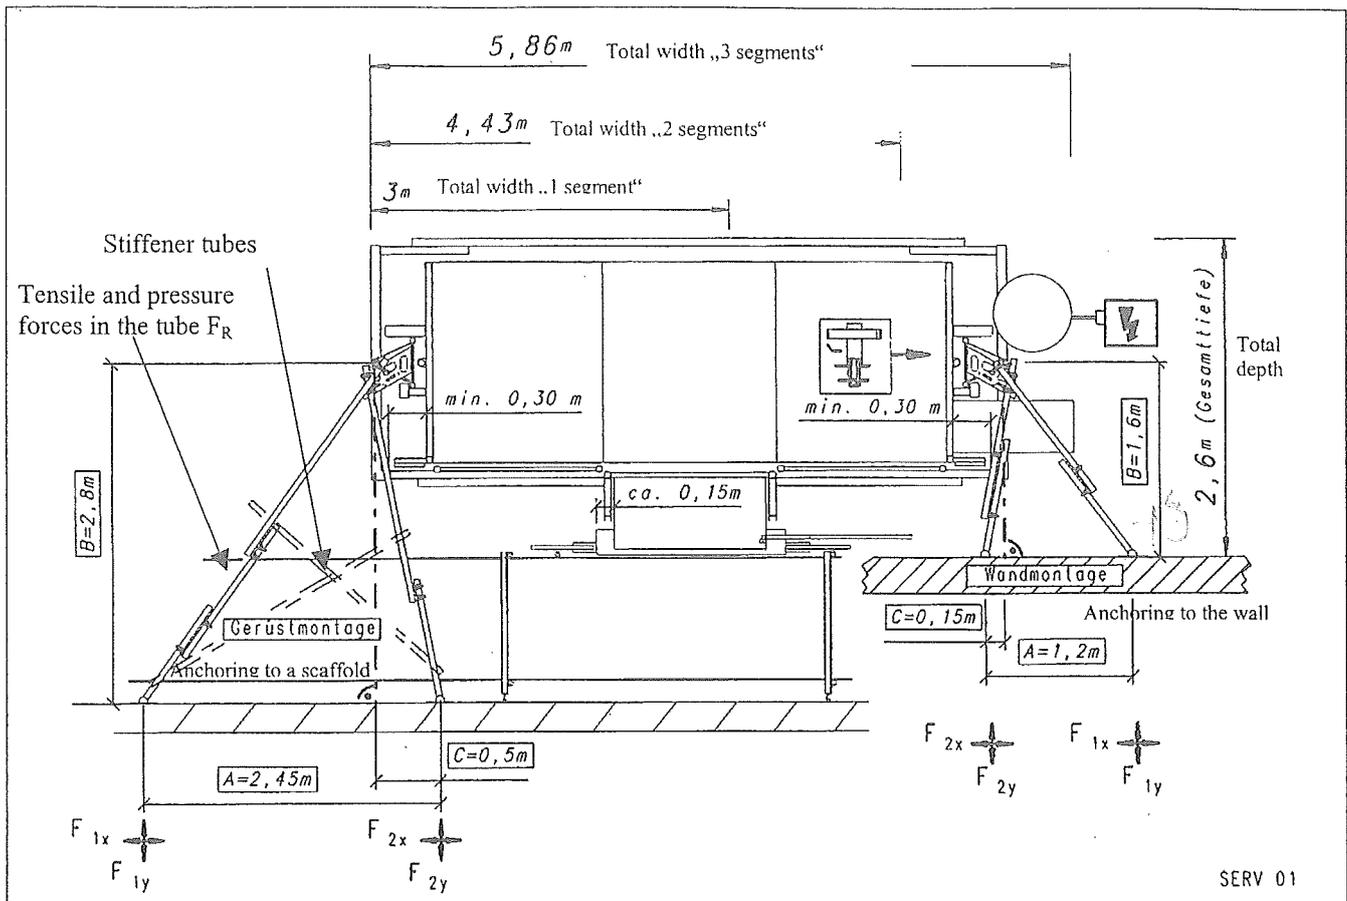

Fig. 26 Anchoring tubes and necessary space
**Anchoring forces for assembly in front of a scaffold with the dimensions stated in Fig. 26**